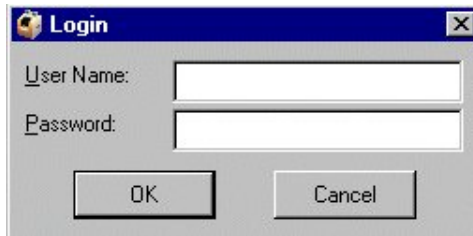

Figure 1-8 Login to Restore Menu
1. Click **Start -> Agilent Restore Backup**. A login window is displayed as shown in Figure 1-8. The **User Name** is 'agilent' and the **Password** is 'restore'.